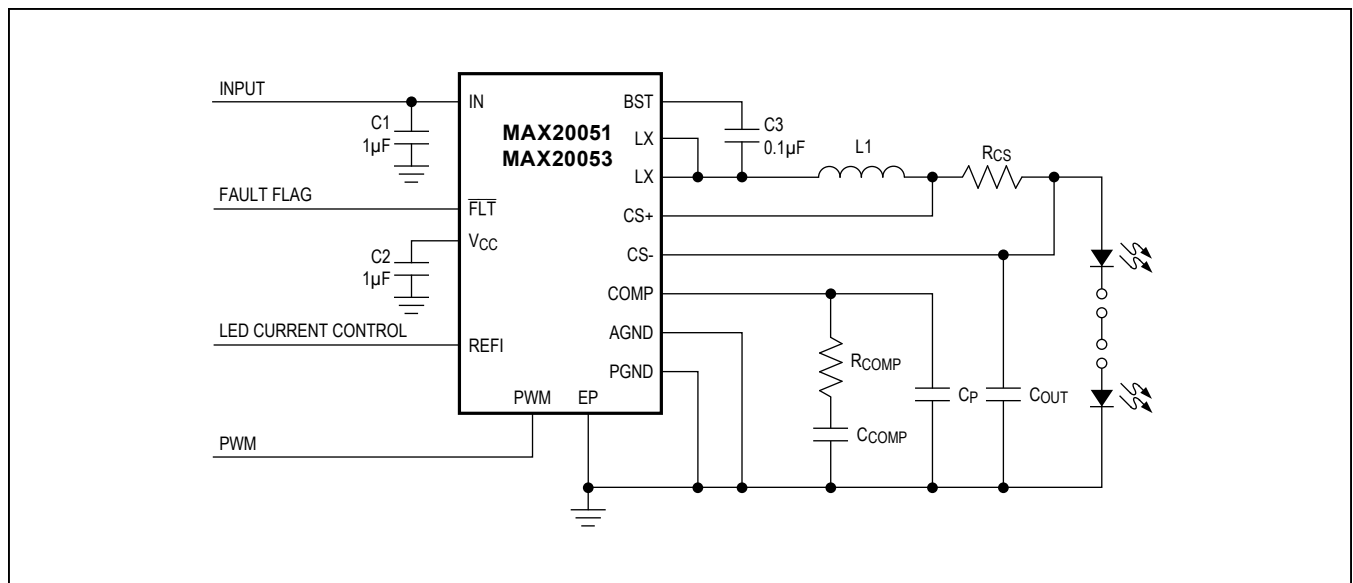

Figure 3. Typical Application Circuit Using the MAX20051
Normal sensing of the LED current should be done on the high side where the LED current-sense resistor is connected to the inductor. The other side of the LED current-sense resistor goes to the anode of the external LED string. The LED current is programmed using R_{CS} (see Figure 3). When REF1 is left open, the voltage at REF1 is clamped to 1.3V. When REF1 is open, the internal reference regulates the voltage across R_{CS} to 220mV. The current is given by:
The MAX20050/MAX20052 have internal loop compensation and there is no user-available adjustability of the loop compensation components. In the case of the MAX20051/MAX20053, an external COMP pin is present and an external compensation network is required for stable operation. See Figure 3 for the typical application circuit using the MAX20051.
- 1) Large switched currents flow in the IN and PGND pins and the input capacitor C1 of Figure 3. The loop formed by the input capacitor should be as small as possible by placing this capacitor as close as possible to the IN and PGND pins. The input capacitor, device, output inductor, and output capacitor should be placed on the same side of the PCB and the connections should be made on the same layer.